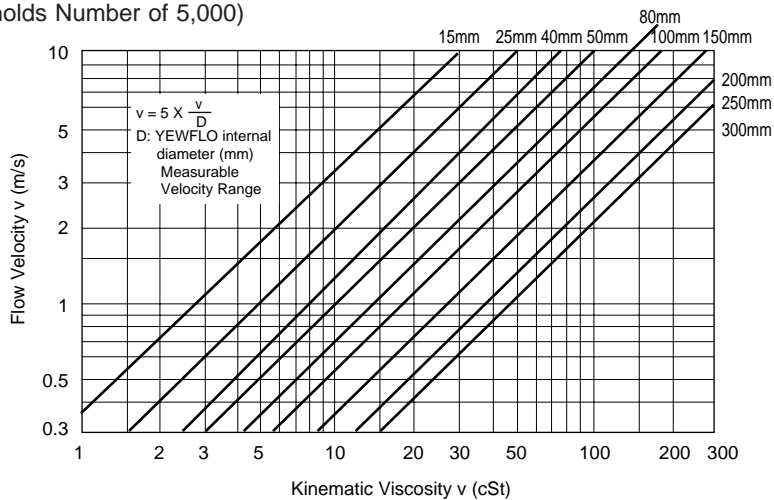

Figure 8. Relationship between Velocity and Kinematic Viscosity
- For liquid measurement; use <Figure 7(a)> and find the minimum velocity and "relationship between Reynolds number and minimum flow velocity <Figure 8>" can be used.
- Use the <Figure 8> of the relationship between Reynolds number and minimum velocity to obtain minimum velocity.